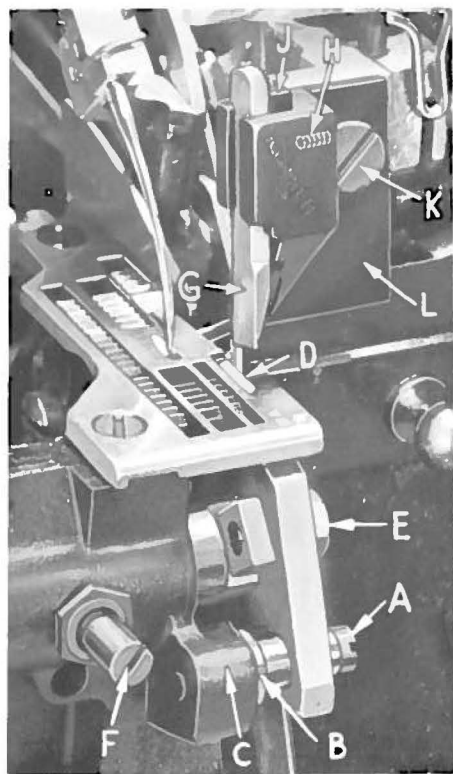

Fig. 15
Replace lower knife holder assembly. In replacing lower knife holder assembly, tighten screw (A, Fig. 15) so that when the face of the flange on sleeve (B) seats against throat plate mounting bracket (C) a free lateral motion of the lower knife and holder assembly is obtained when the knife is manually pressed at its upper corner. Lower knife (D) should be set with cutting edge flush with throat plate surface. Adjustments are made with hexagonal head screw (E) which holds the lower knife. Lower knife is spring pressed against the upper knife, so no lateral adjustment is necessary when the width of trim is changed.
Replace upper knife assembly. Clamp upper knife (G, Fig. 15) in position, setting allen screw (H) to hold clamp (J) against the upper knife. At bottom of its stroke, front cutting edge of upper knife should extend not less than 1/64 inch below cutting edge of the lower knife.